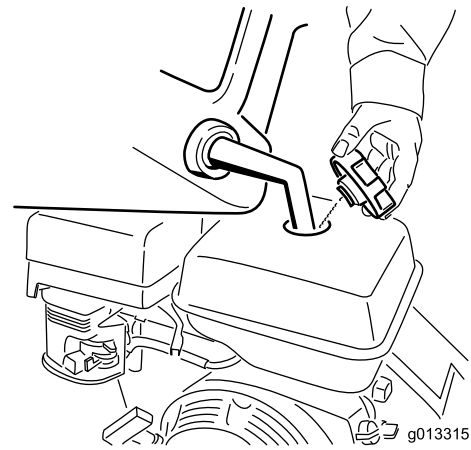

Figure 14
3. Clean around the fuel tank cap and remove it (Figure 14).